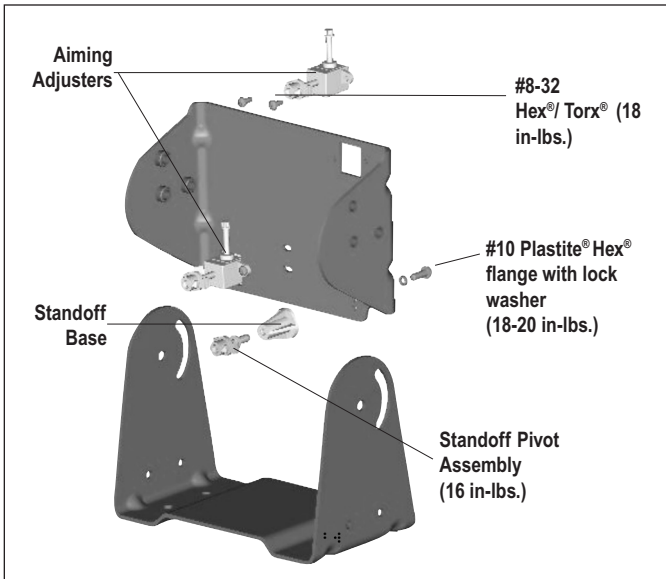

FIGURE 25 - AIMING ADJUSTER REPLACEMENT KIT COMPONENTS
4. Remove the #8-32 Hex[®]/Torx[®] screws from the damaged aiming adjuster(s). Refer to Figure 25.